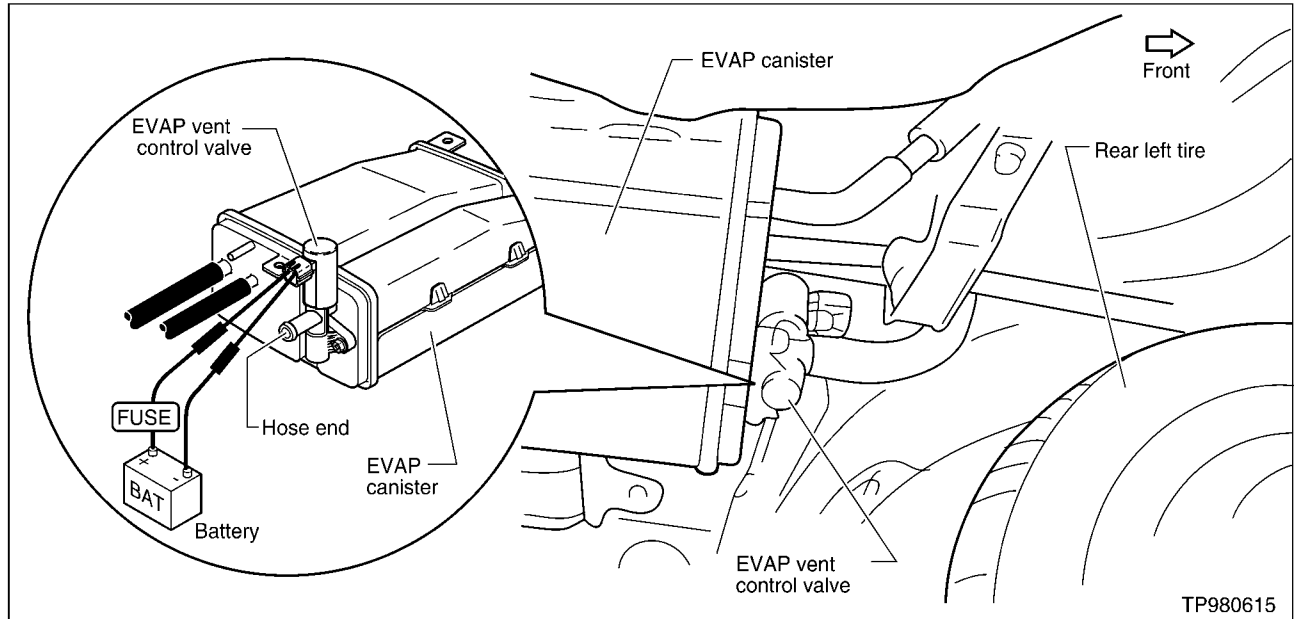

Figure 3
- A. Apply battery voltage to the vent control valve and look into the hose end of the valve to make sure the air passage closes (see Figure 3).